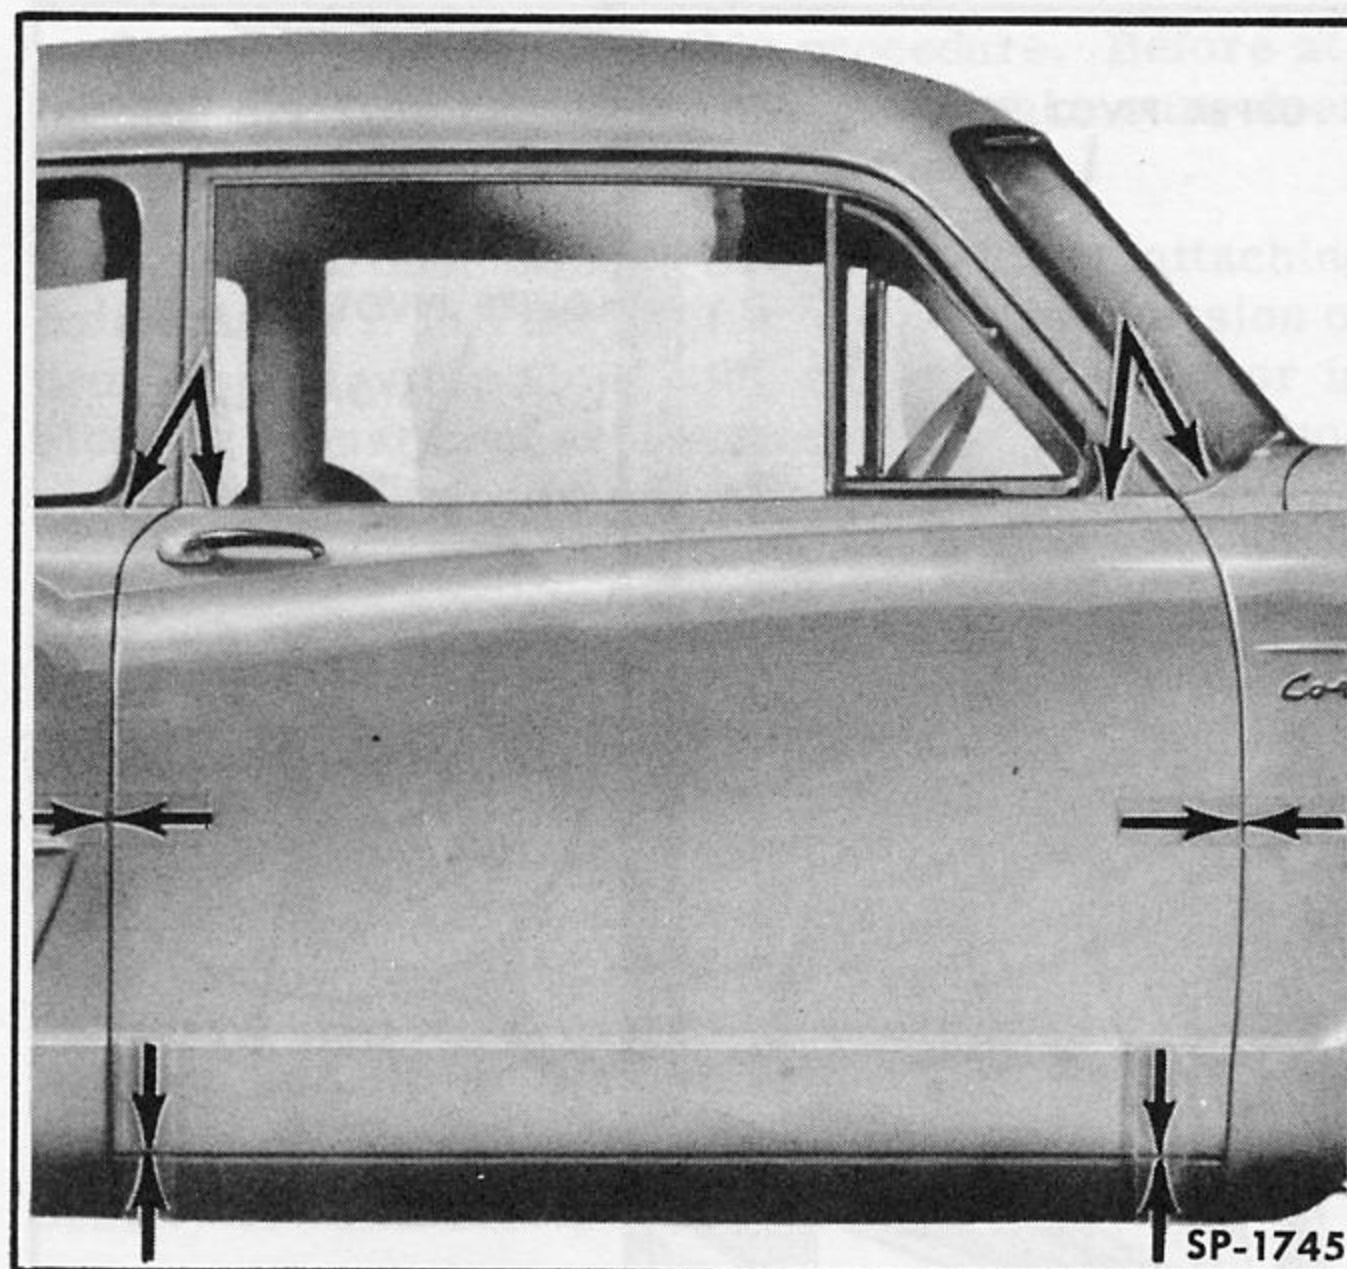

**Fig. 240—Door Hinge Mounting**
1. Open door and scribe location of hinges on body hinge pillar. Refer to Fig. 240.